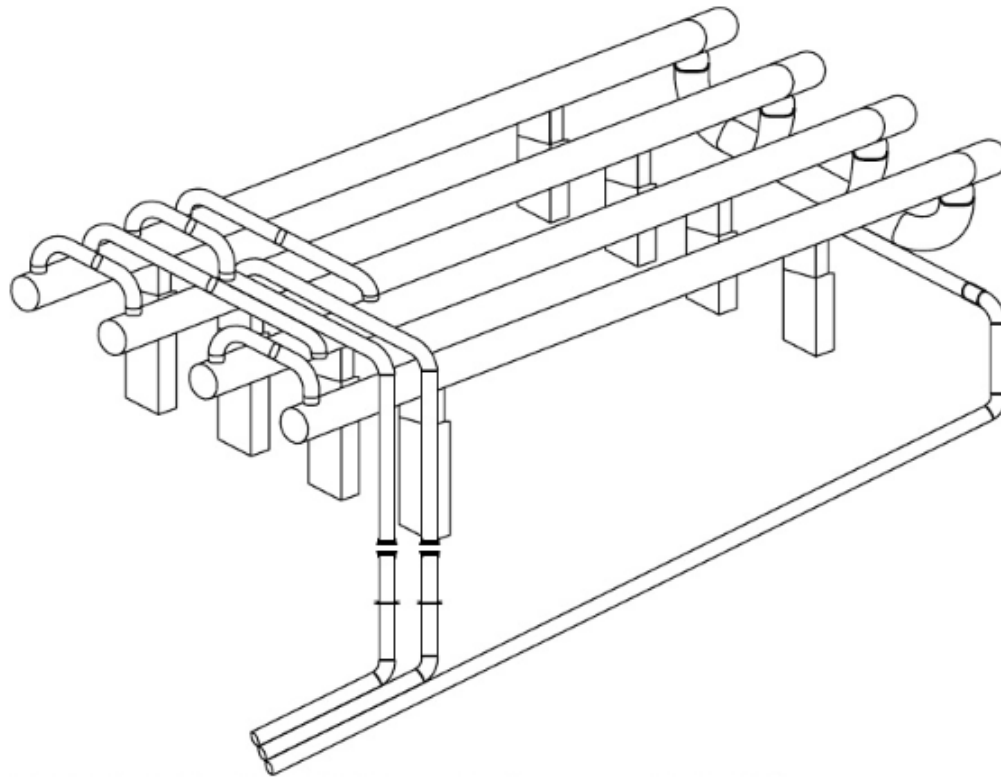

FIGURE 3.14 Schematic of multiple-pipe slug catcher. (Courtesy of Pearl Development Company.)
- Figure 3.14 shows a schematic of typical multi-pipe harp design for a slug catcher.